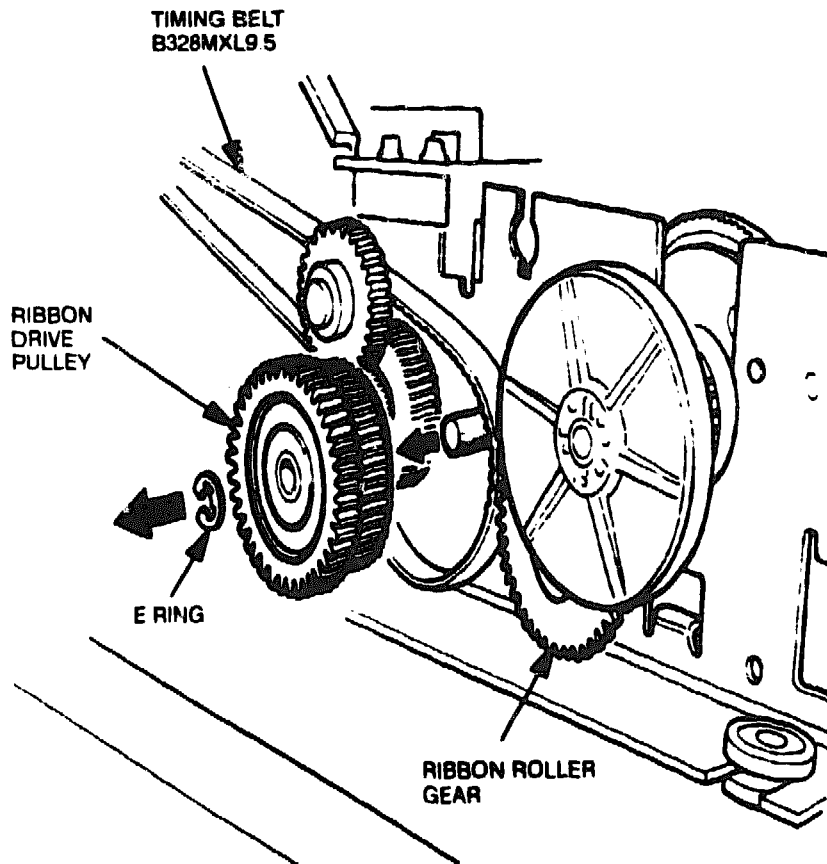

Figure 6-72 Ribbon Drive Pulley, Ribbon Roller Gear, and Timing Belt B328MXL9.5
4. Using a flat-tip screwdriver, remove the E retaining rings on the ribbon drive pulley and the ribbon roller gear (see Figure 6-72). Then slide the ribbon roller gear outward and away from the support stud.